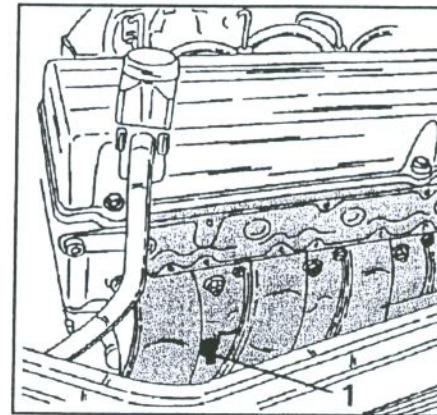

Fig. 1.83 - The coolant drain plug (1) in the side of the cylinder block.
- Unscrew the coolant drain plugs. One is located at the bottom of the radiator. A second plug is fitted to the cylinder block, but rather hidden at the position shown in Fig. 1.83. Poke a piece of wire into the bore to dislodge sludge, if the coolant flow is restricted.